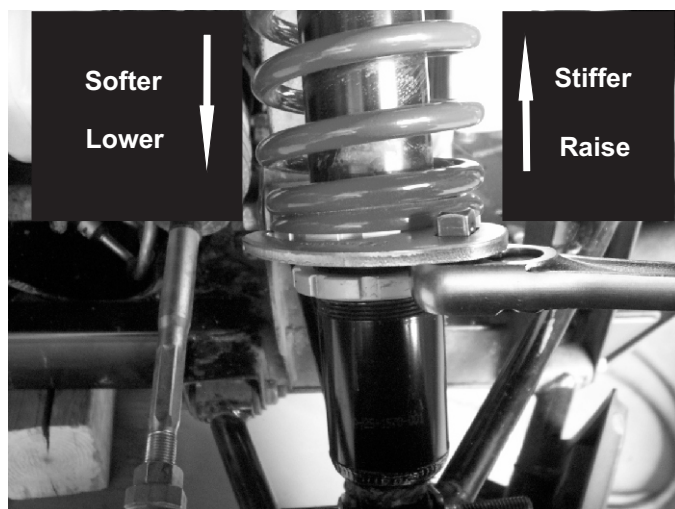

Figure 5
1. Your Progressive Suspension shocks come with the spring Pre-Load adjusted to the optimum setting for Heavy-Duty use. However, the pre-load is adjustable by means of a threaded Adjusting Ring and Lock Ring. **Figure 5**.
3. To stiffen the ride, raise ride height and reduce sag, thread the Adjusting Ring up the shock body. Or to soften the ride, lower the ride height and increase sag, thread the Adjusting Ring down the shock body. **Figure 5**.